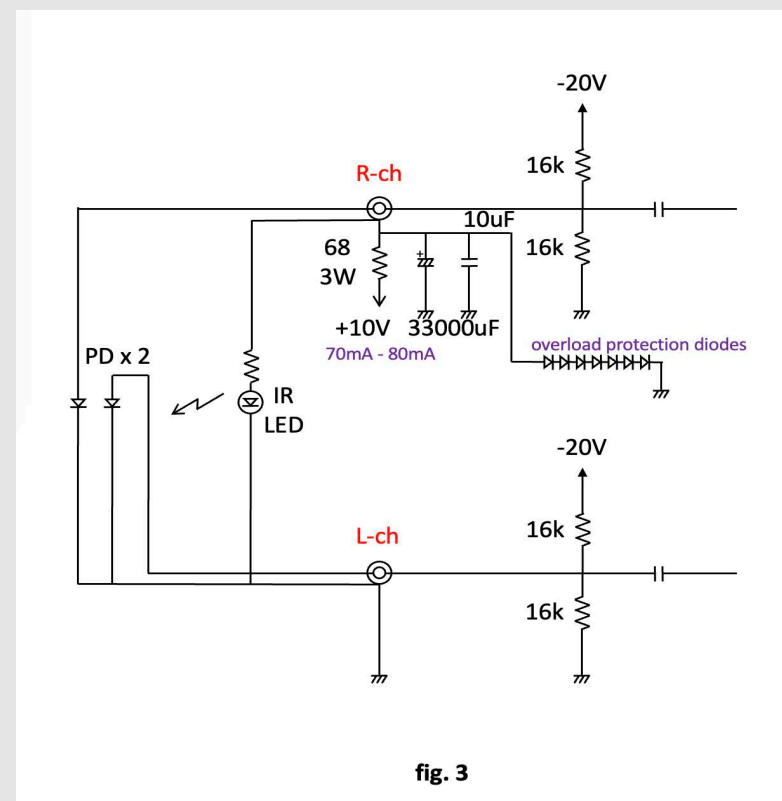

fig. 3
**A** In DS Audio’ s optical pickup cartridges, infrared LED for light source and photo detector (PD) are connected as shown in fig.3. In order to protect PD from overload damage, supply voltage to the infrared LED must be kept lower than +5V in any situation.